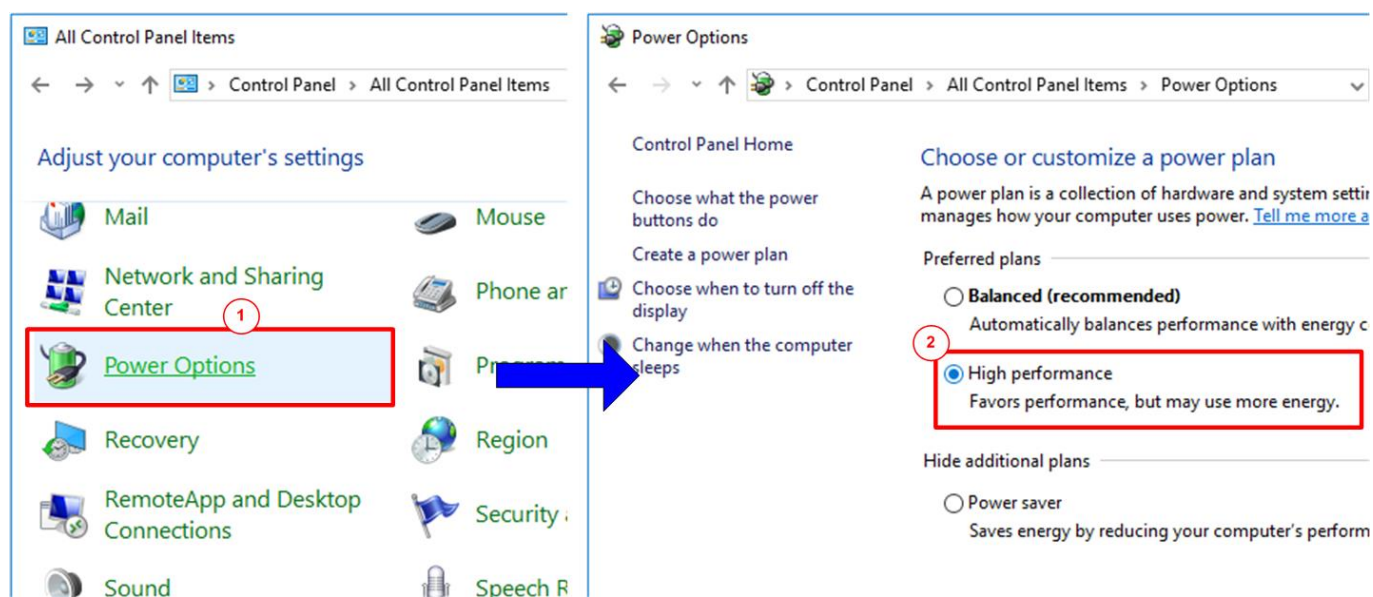

Figure 2-6 Power options
- 1) Open Control Panel and select Power Options, as shown in the left window of Figure 2-6.
- 2) Set High Performance plan, as shown in the right window of Figure 2-6.